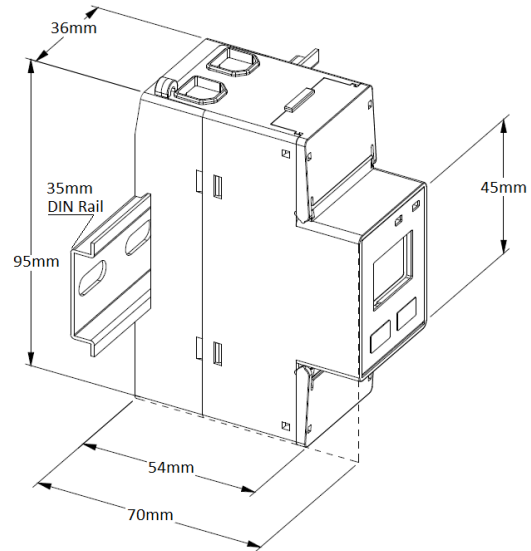

Figure 2-4 Installation
- Align the top of the mounting channel at the back of the PMC-220-A6 at an angle against the top of the DIN Rail as shown in Figure 2-4 right